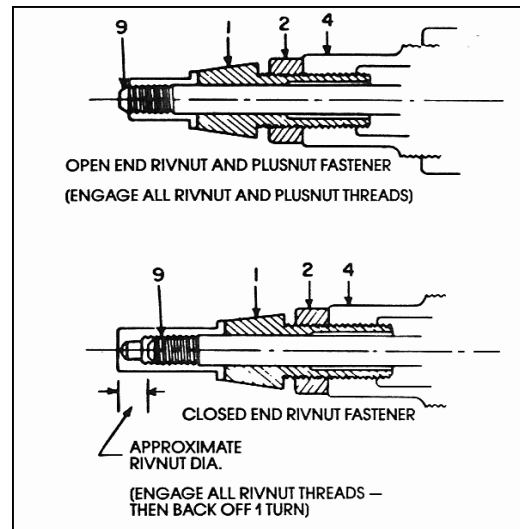

Figure 2 - Adjusting the Anvil
1. Run hex nut (2,fig 2) on anvil (1,fig 2) as far as it will go and insert threaded end of anvil in pull-up stud housing (4,fig 2)
3. By hand, thread fastener on exposed end of pull-up stud until all threads are engaged. See fig 2.
6. Prevent anvil from turning while using wrench to lock anvil hex nut (2,fig 2) against base of pull-up stud housing (4,fig 2).